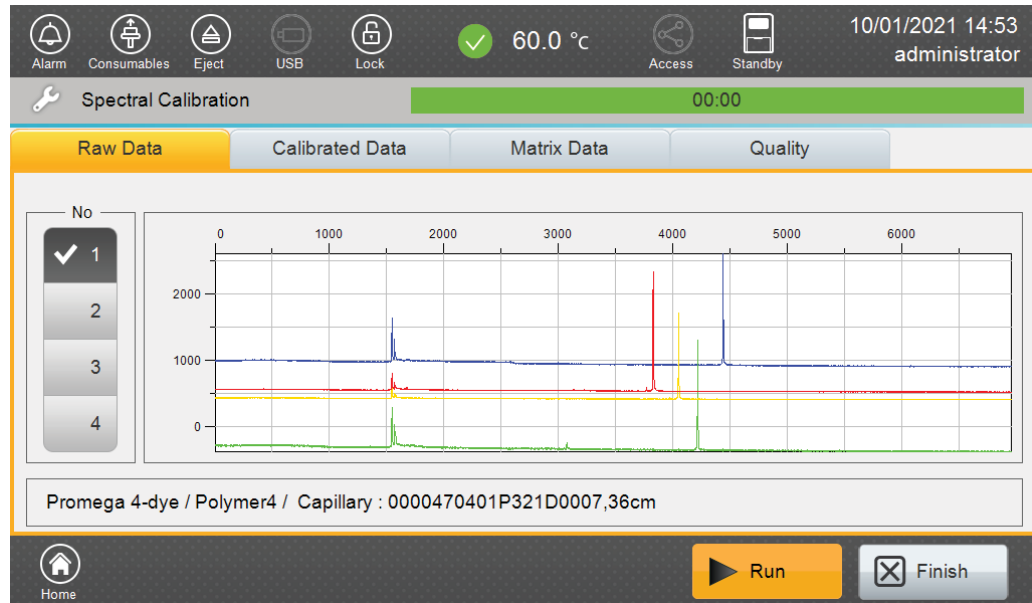

Figure 52. Spectral Calibration 'Raw Data' tab screen.
1. Following the run, the 'Raw Data' tab (Figure 52) will be displayed. The minimum peak height for spectral calibration is 500 relative fluorescent units (RFU) and the maximum peak height is 32,767RFU.